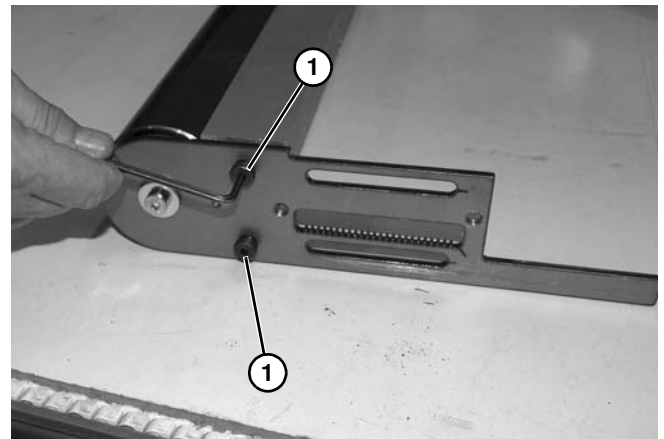
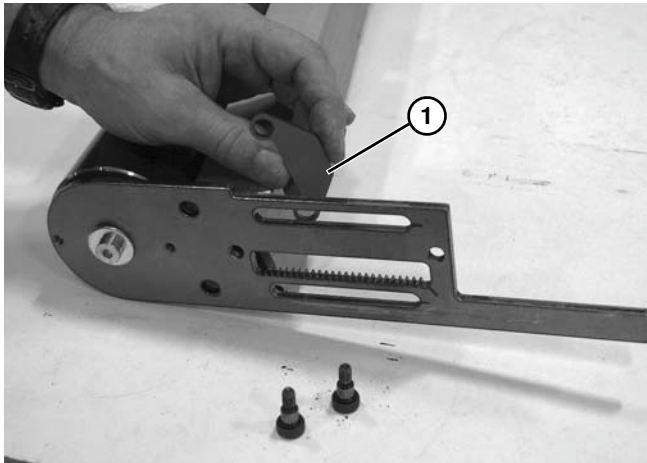

Figure 109
Figure 110
10. Remove two shoulder screws (**Figure 109, item 1**) and filler bracket (**Figure 110, item 1**) from tension tail assembly.